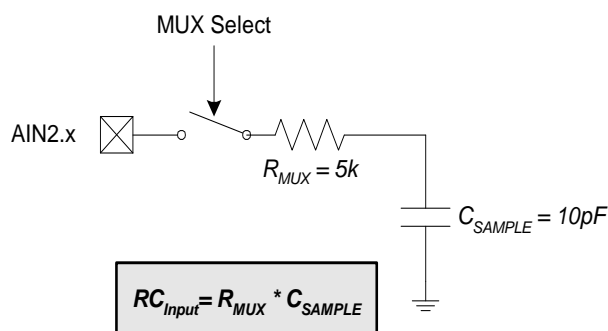

Figure 7.3. ADC2 Equivalent Input Circuit
A minimum tracking time is required before an accurate conversion can be performed. This tracking time is determined by the ADC2 MUX resistance, the ADC2 sampling capacitance, any external source resistance, and the accuracy required for the conversion. Figure 7.3 shows the equivalent ADC2 input circuit. The required ADC2 settling time for a given settling accuracy (SA) may be approximated by Equation 7.1. Note: An absolute minimum settling time of 0.8  $\mu$ s required after any MUX selection. Note that in low-power tracking mode, three SAR2 clocks are used for tracking at the start of every conversion. For most applications, these three SAR2 clocks will meet the tracking requirements.